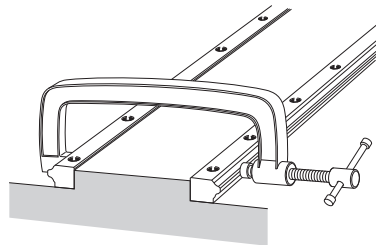

Fig.22
- (2) Use a small vice to press the two LM rails to the base so that they closely contact the reference surface, then tighten the mounting bolts to the recommended torque (see **B1-101**). (Fig.22)
- (3) Mount the LM blocks on the table, then install them onto the LM rails. Be sure the mounting bolts for the LM blocks are temporarily fastened.